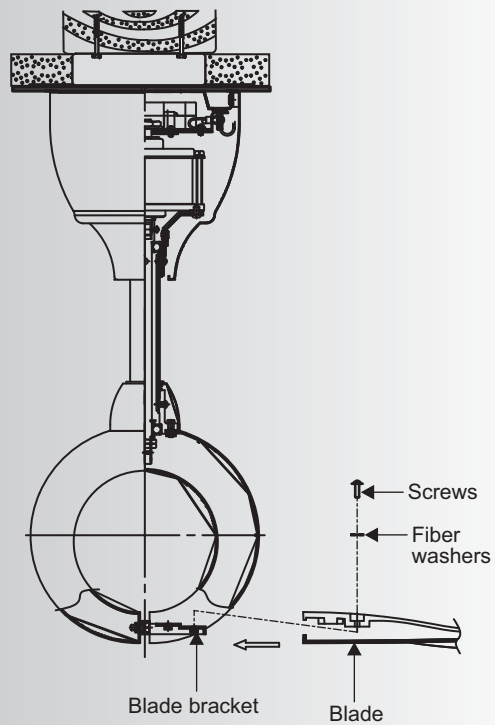

Fig. 10
Step 1. Attach a blade to a blade bracket using the screws and fiber washers provided. (Fig. 10)